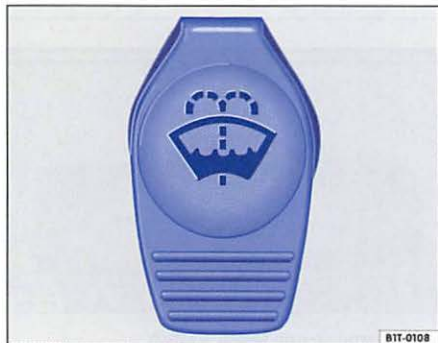

Fig. 82 In the engine compartment: Cap of the windshield washer fluid reservoir.
- The windshield washer fluid reservoir can be identified by the  symbol on its cap ⇒ fig. 82.
- Refill with an appropriate windshield washer fluid that is recommended by Volkswagen ⇒ ①. Follow the directions on the container.